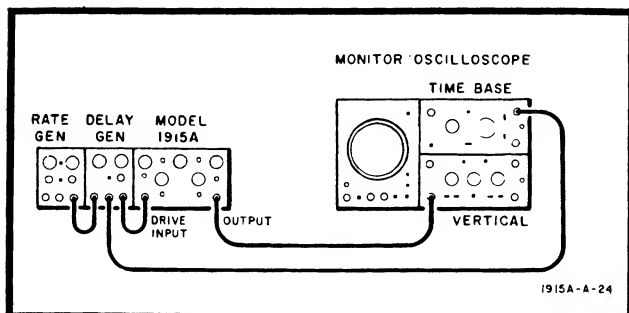

Figure 5-17. Adjustment Test Setup
- Connect equipment as shown in Figure 5-17.